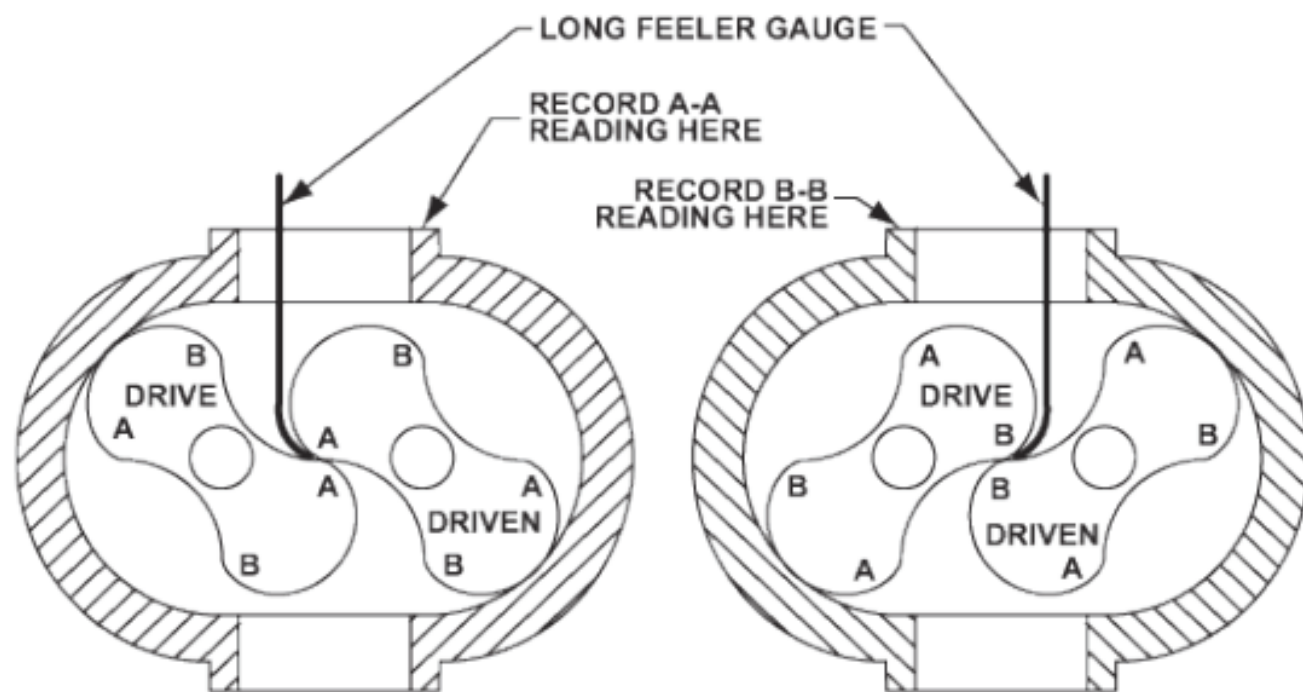

FIGURE 13
16. Check clearance between the face of the end plate and the rotor lobes. See Figure 13 for correct gear and clearances. If clearances are not within specifications, recheck the parts to find and correct the cause of improper clearances before proceeding.
32. Lay the air power unit down with the drive gear on the left. Using feeler gauges, take interlobe readings and record on each side of housing as indicated in Figure 13. By removing or adding shim behind the helical gear, it rotates as it is moved in or out and the driven rotor turns with it, thus changing the clearance between rotor lobes. Changing the shim thickness 0.006 in. (0.16 mm) will change the rotor lobe clearance one-half the amount: 0.003 in. (0.08 mm).
EXAMPLE: See Figure 13, check the clearance at AA (left-hand reading) and BB (right-hand reading). If AA reading is 0.003 in. (0.08 mm) and BB reading is 0.009 in. (0.24 mm), by removing 0.006 in. (0.16 mm) of shim, the readings will change one-half the amount removed or 0.003 in. (0.08 mm). AA should then read 0.006 in. (0.16 mm) and BB should read 0.006 in. (0.16 mm). The final readings should be within 0.002 in. (0.05 mm) of each other.